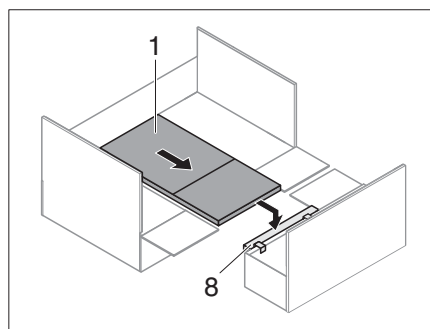

Fig. 198 Table on bedding box cushion
- Attach the bedding box cushion (Fig. 198,8).
- Pull out the hooking table (Fig. 198,1) and position on the hooked-in bedding box cushion (Fig. 198,8).